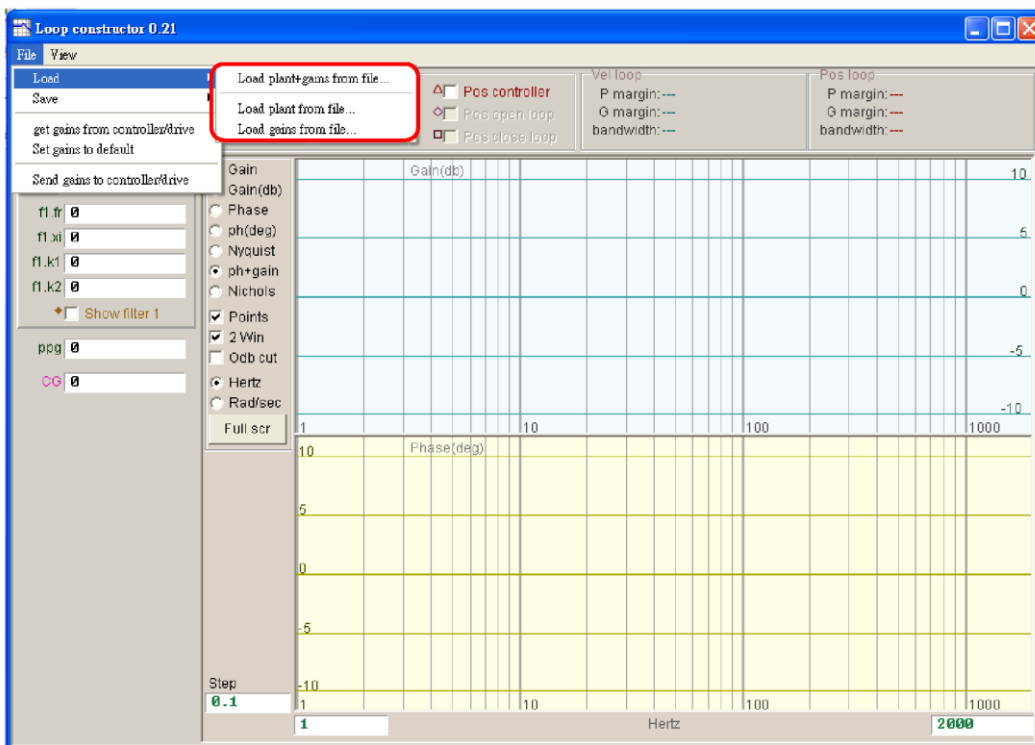

Fig. 6-38 Loop constructor load data from file
When using the Loop constructor function to analyze the control system, users need to load the control system and gain parameters by selecting File->Load from the Loop Construction interface. There are three kinds of files can be loaded, such as (1) Load plant+gains from file... (2) Load plant from file... (3) Load gains from file... as shown in Fig. 6-38.
- (1) Load plant+gains from file...: Load the .lop file. This file contains the control system and gain parameters.
- (2) Load plant from file...: Load the .fgr file. This file contains the control system.
- (3) Load gains from file...: Load the .gns file. This file contains the control gains.